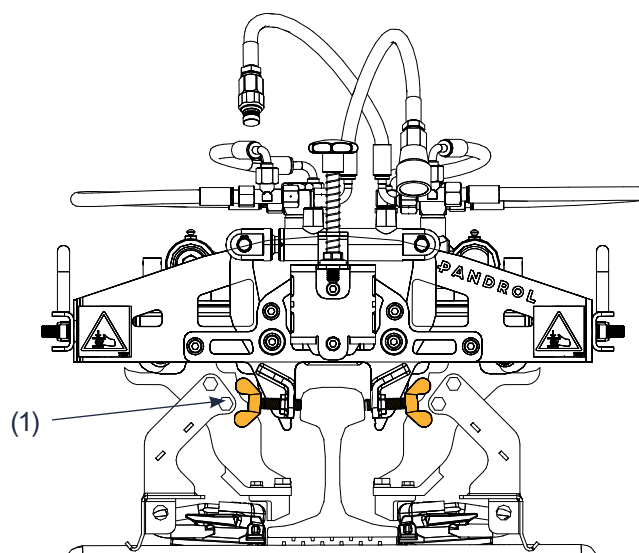

Fig 40.
Adjust the 4 screws (1), Fig 40 to enable good torsional stiffness during de-clipping.